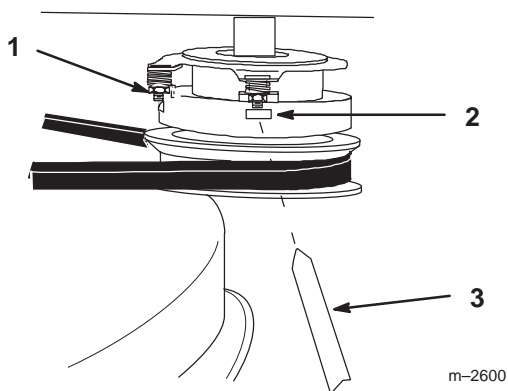

Figure 36
1. To adjust clutch, tighten or loosen lock nuts on flange studs (Fig. 36).
2. Check adjustment by inserting feeler gauge through slots next to studs (Fig. 36).